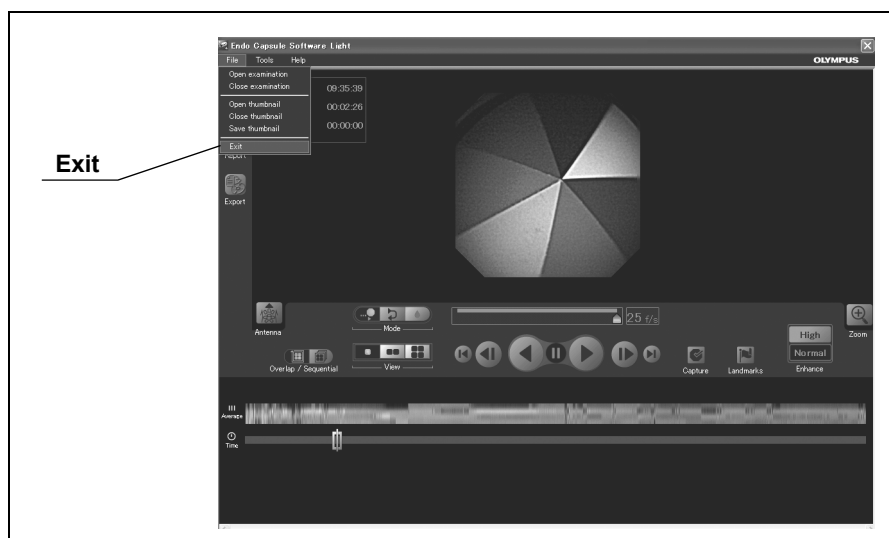

Figure 4.40
1. Select "Exit" from the "File" menu or click the [X] button at the upper right on the main screen (Figure 4.40).